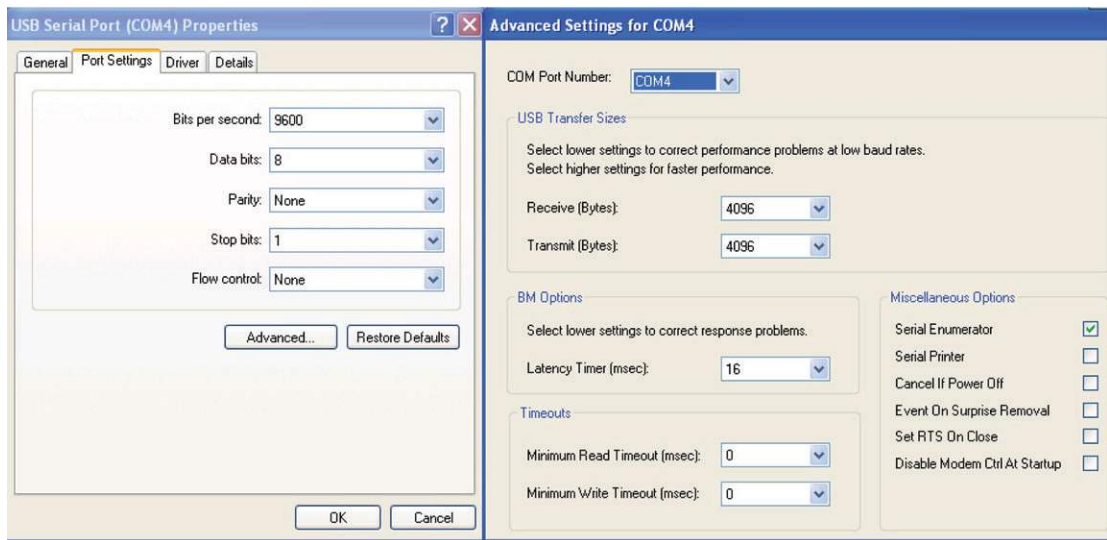

Figure 9. Change the COM Port that USB is Emulating
7. If the RS232 com port emulated is higher than 4, please change it to any number between 1 and 4 by right clicking on ports (COM & LPT), select the Port Settings tab and select Advanced. Change the Com port number to a number from 1 to 4. See Figure 9.